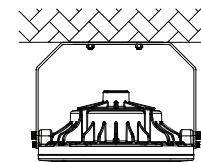
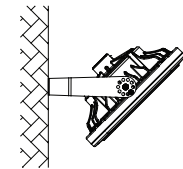

Figure 5
Figure 6
- 5.After installation, complete wiring with suitable listed water proof conduit fitting and conduit as per local standard., and make sure there is a good joint protective measures. Users can adjust 90 degree to left or right from vertical downward direction by adjusting the screw on the bracket. (Figure 5 、 Figure 6).